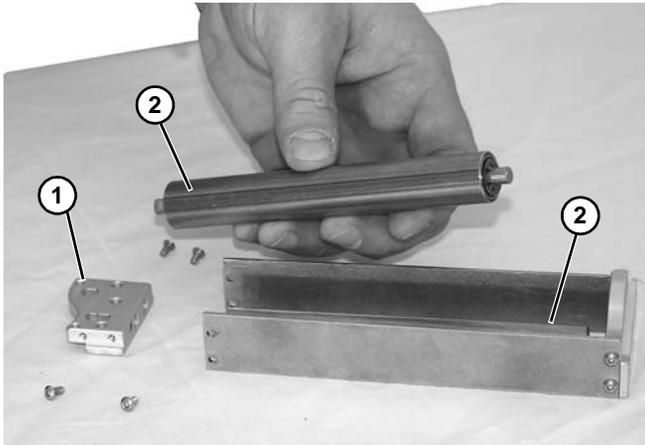

Figure 41
- Remove roller mounting block (Figure 41, item 1).
- Remove each pinch roller (Figure 41, item 2).
- Install pinch roller onto roller mounting block, mating squared roller end (Figure 41, item 1) with slotted area (Figure 41, item 2) on mounting block end.